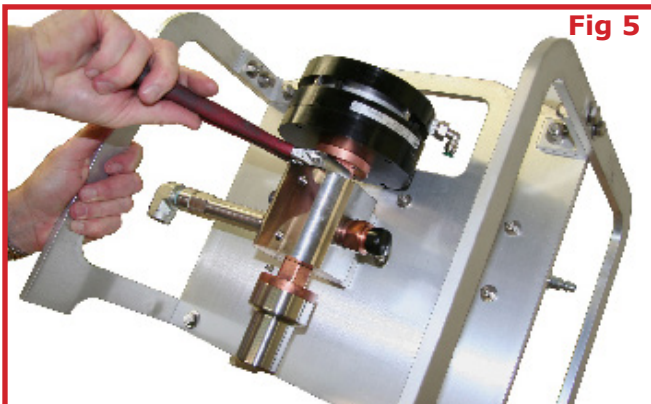

Fig 5
**Step 2:** Using a crescent wrench, loosen the cartridge adapter from the valve block (Fig 5). This will also withdraw the upper part of the cartridge.